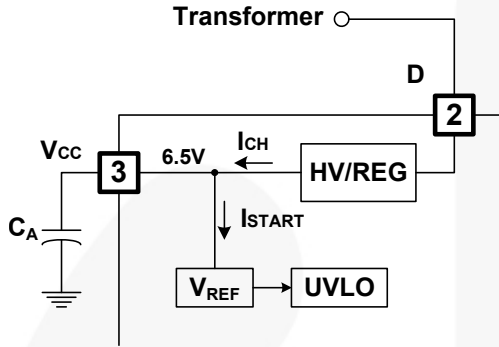
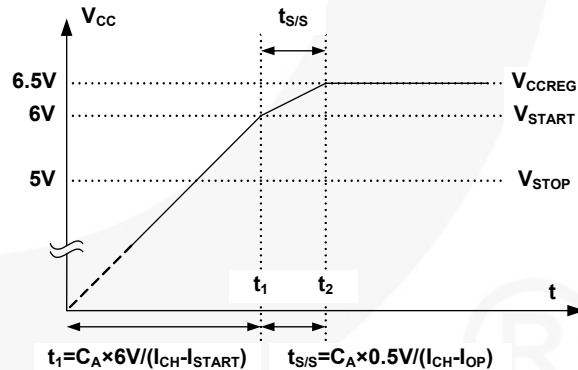

Figure 15. Startup Block
Figure 20. Soft-Start Function
**1. Startup and  $V_{CC}$  Regulation:** At startup, an internal high-voltage current source supplies the internal bias and charges the external capacitor ( $C_A$ ) connected to the  $V_{CC}$  pin, as illustrated in Figure 15. An internal high-voltage regulator (HV/REG) located between the D and  $V_{CC}$  pins regulates the  $V_{CC}$  to be 6.5V and supplies operating current. Therefore, FSQ500L needs no auxiliary bias winding.
**4. Soft-Start:** The soft-start time is tuned by an external  $V_{CC}$  capacitor ( $C_A$ ), which increases PWM comparator non-inverting input voltage together with the senseFET current slowly after it starts up. Before  $V_{CC}$  reaches  $V_{START}$ ,  $C_A$  is charged by the current  $I_{CH} - I_{START}$ , where  $I_{CH}$  and  $I_{START}$  are described in Figure 15. After  $V_{CC}$  reaches  $V_{START}$ , all internal blocks are activated, so that the current consuming inside IC becomes  $I_{OP}$ . Therefore,  $C_A$  is charged by the current  $I_{CH} - I_{OP}$ , which makes the increasing slope of  $V_{CC}$  become sluggish.  $V_{CC}$  is shifted by 6.0V negatively (it is performed in soft-start block in Figure 2), and then  $V_{CC} - 6.0V$  is an input of one of the input terminals of the PWM comparator. The drain current follows  $V_{CC} - 6.0V$  instead of the  $V_{FB}^*$  because of the low-dominant feature of the PWM comparator. The soft-start time can be made long or short by selecting  $C_A$ , as described in Figure 20. During  $t_{S/S}$ ,  $I_{DELAY}$  is disabled to avoid unwanted OLP. Typically,  $t_{S/S}$  is around 4.6ms with 27 $\mu$ F of  $C_A$ .